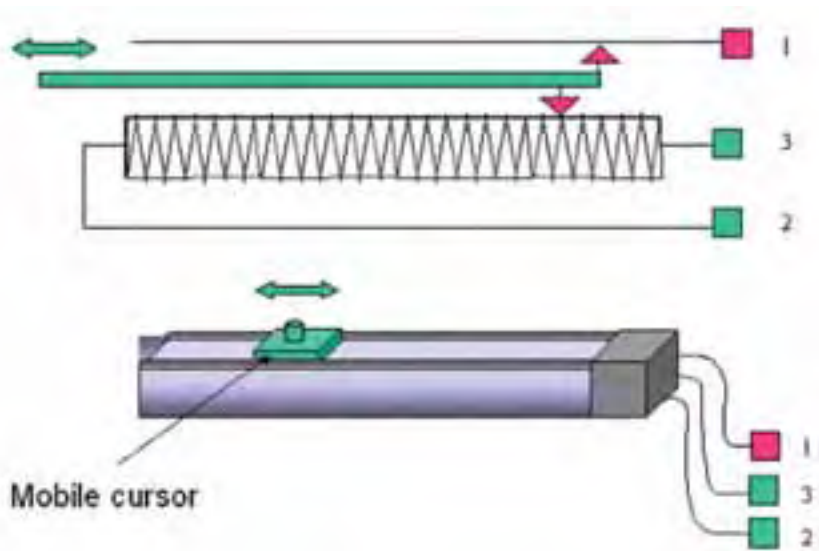

Fig 2.11a - Linear displacement transducer
- Linear displacement transducer, or linear transducer (fig. 2.11a)